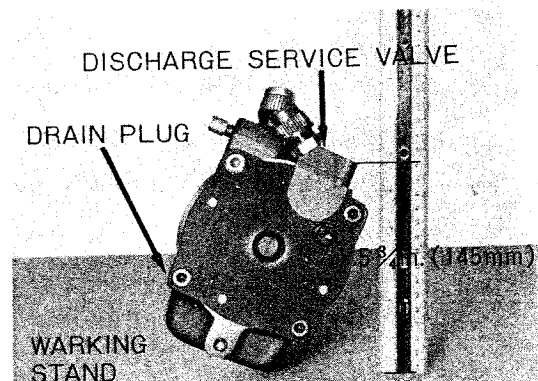

Fig. 93
- a) Put the compressor assy horizontally on the clean working stand and incline the compressor in such a manner as to lift up the housing surface screwed plug. See Fig. 93.
with keeping compressor assy as shown in Fig. 93.
- 2) If the oil does not come out of drain hole, even though compressor is inclined as shown in Fig. 93. The oil amount is insufficient.